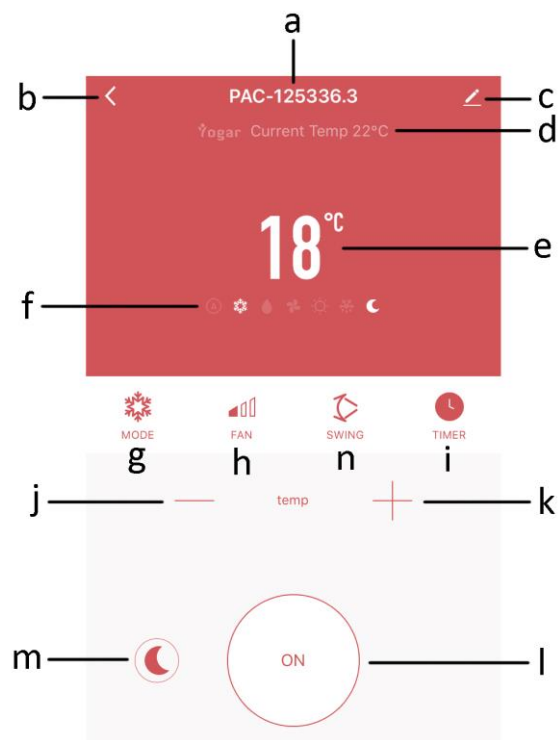

Fig.4
6. Now you can operate the air conditioner in the interface below (Fig.4). Press the corresponding button to set your appliance. In the mode and fan speed selection, you will see the same options as on the control panel of the appliance.